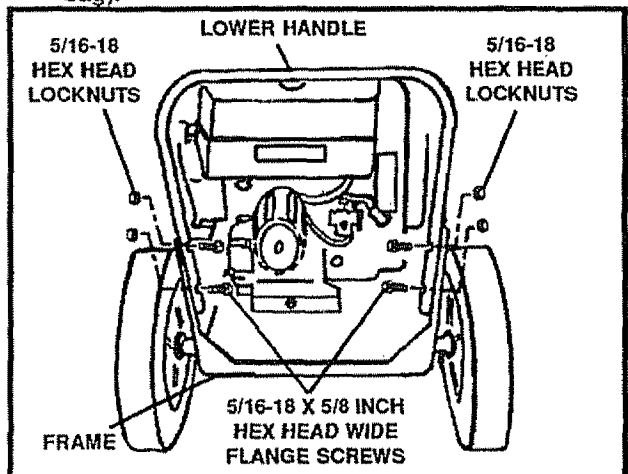

FIG. 3A
- Place the lower handle inside the edger/trimmer frame (See Fig. 3A) and secure in place with four (4) 5/16-18 x 5/8 inch hex head wide flange screws and four (4) 5/16-18 hex head locknuts (found in parts bag).